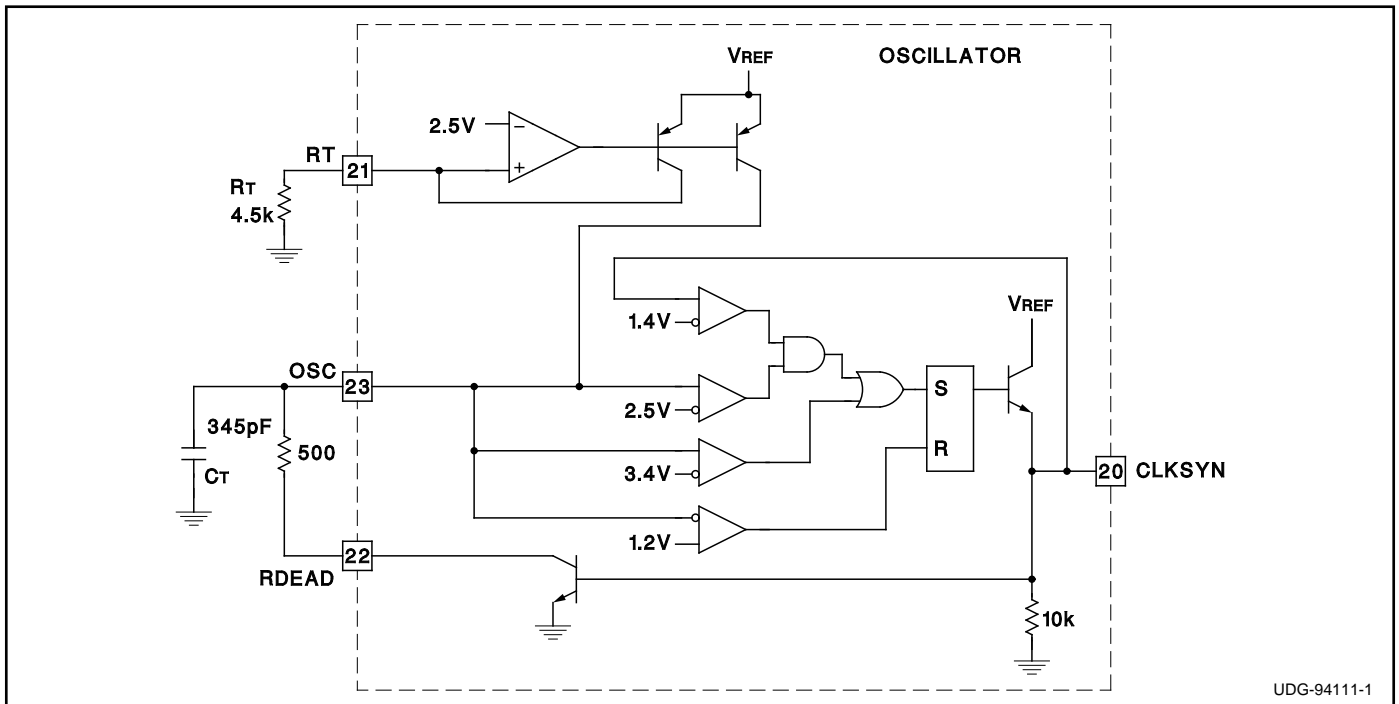

Figure 1. Oscillator Block with External Connections
PWM Oscillator:The oscillator block diagram with external connections is shown in Figure 1. A resistor (RT) connected to pin RT sets the linear charge current;
nized to the highest free running frequency by connecting 100pF capacitors in series with each CLKSYN pin and connecting the other side of the capacitors together forming the CLKSYN bus. The CLKSYN bus is then pulled down to ground with a resistance of approximately 10k. Referring to Figure1, the synchronization threshold is 1.4V. The oscillator blanks any synchronization pulse that occurs when OSC is below 2.5V. This allows units, once they discharge below 2.5V, to continue through the